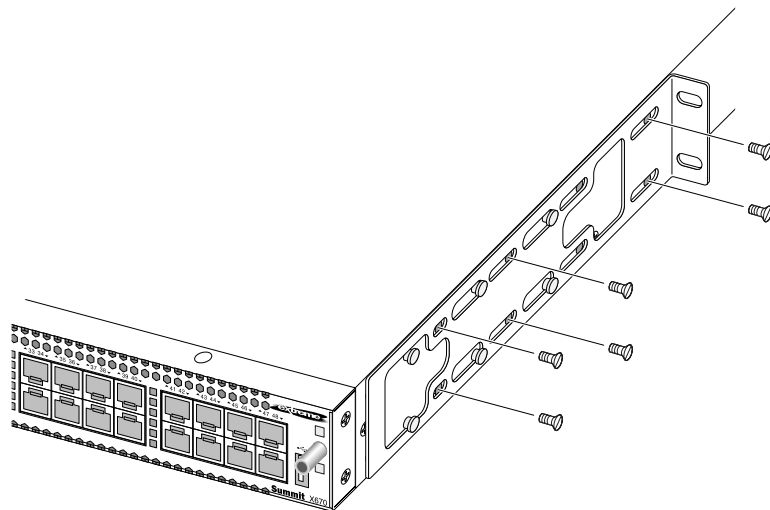

Figure 288: Attaching a Rack-mounting Bracket (X670 shown)
- 1 On one side of the switch, set a mounting bracket against the switch housing, with the flange toward the back of the switch (see Figure 288: Attaching a Rack-mounting Bracket \(X670 shown\) on page 315).